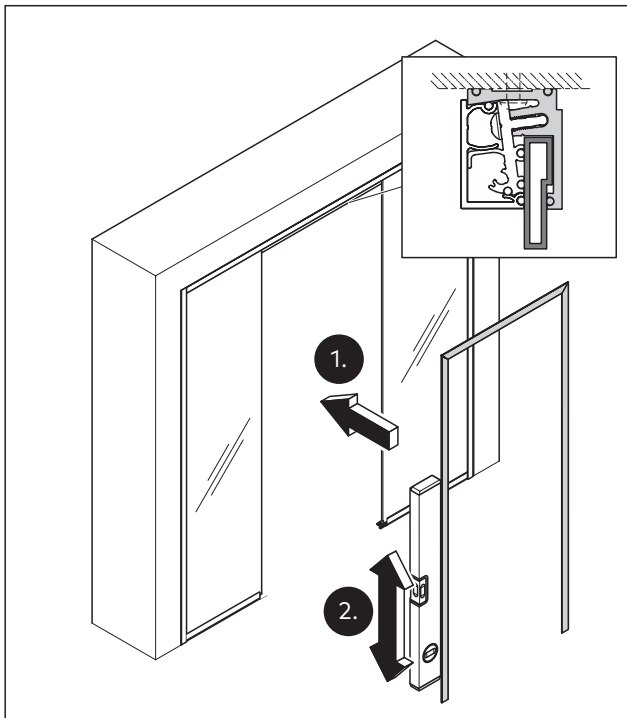

Fig. 29 Set the base profile for the door frame from the opposite side to the hinge into the passage opening
- Place the base profile for the door frame from the opposite side to the hinge into the passage opening (Fig. 29).